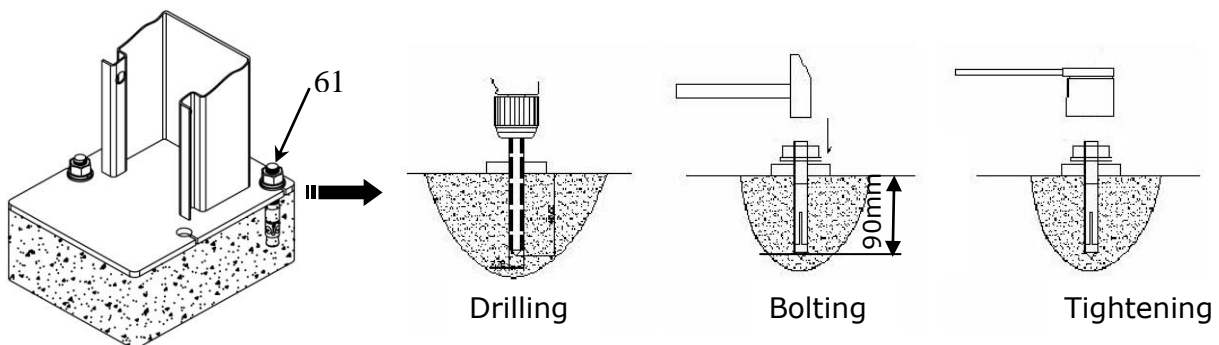

Fig. 35
2. Using the prescribed rotary hammer drill, and drill all the anchor holes and install the anchor bolts. Do not tighten the anchor bolts (See Fig. 35).